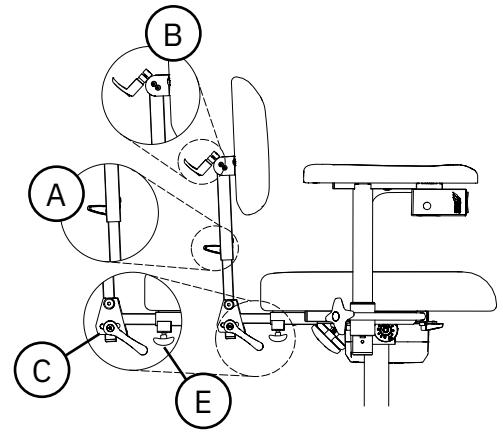

Figure 5.42. Medic backrest mechanism.
Medic can be adjusted in height (A), angle of backrest mechanism (B), angle of back recliner (C) and depth (E), see Figure 5.42. The back recliner can be adjusted in the range of 15° forward to 45° backwards.